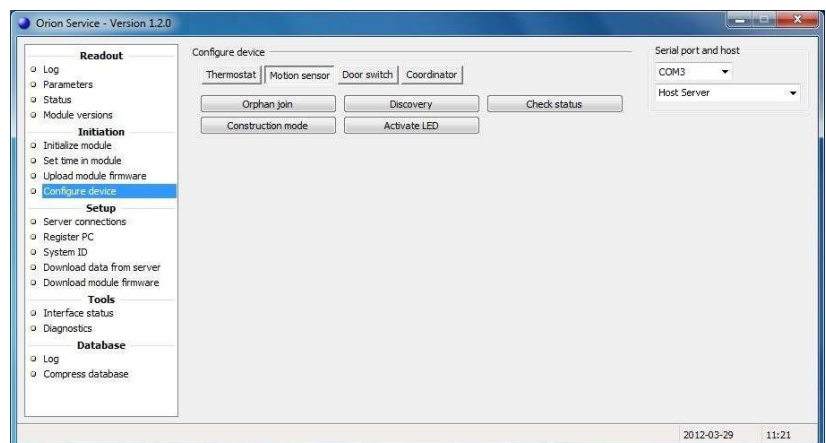

Figure 32
7. Go to the **Configure device** section in the left part of the Orion Service software window and choose the **Motion sensor** tab. Make sure that the service cable is plugged into the motion sensor and click the **Activate LED** button; see Figure 32.